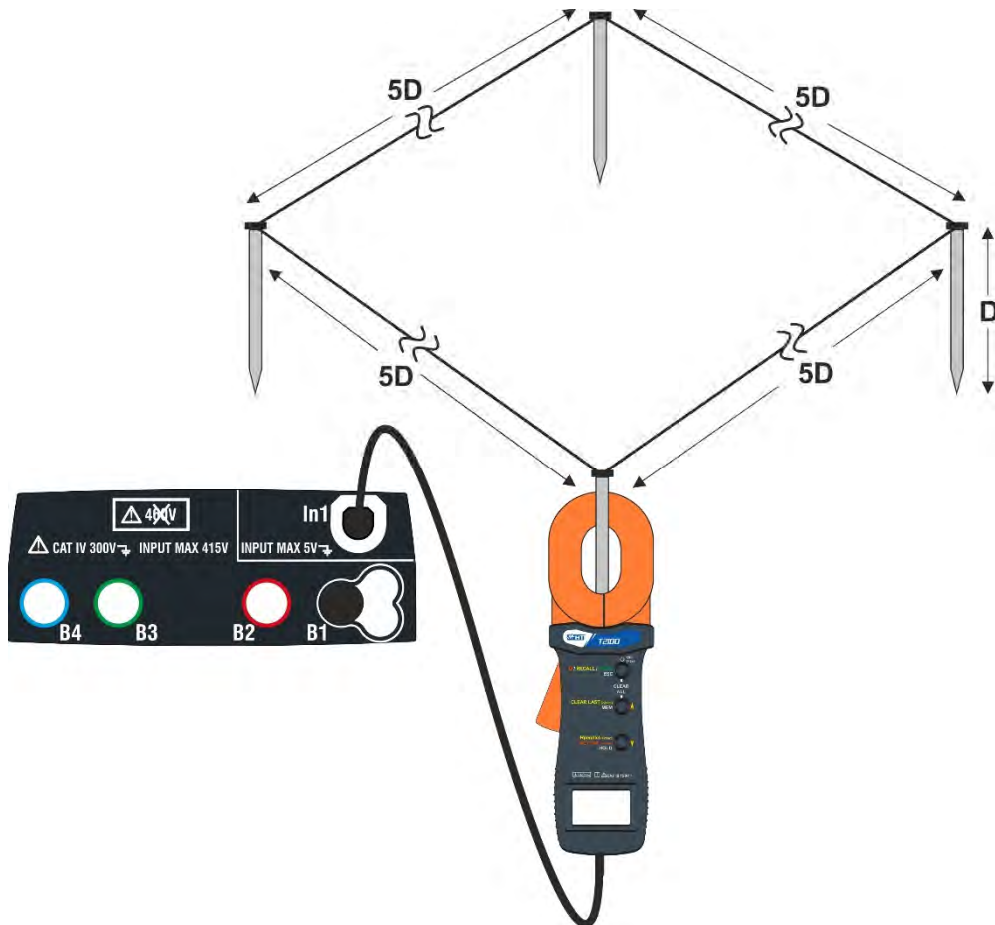

Fig. 32: Resistance measurement of single rods with clamp T2100
The measurement carried out by clamp T2100 can be used to evaluate single rods resistance values within an earth installation without disconnecting the rods, **assuming they do not affect each other** (see Fig. 32).
4. Connect the clamp to the first rod of the earth network considered as shown in Fig. 32. Note the value of the resistance in the R field and press the icon to insert this value in the calculation of parallel resistance and increase the N parameter by one unit ($N=1$)